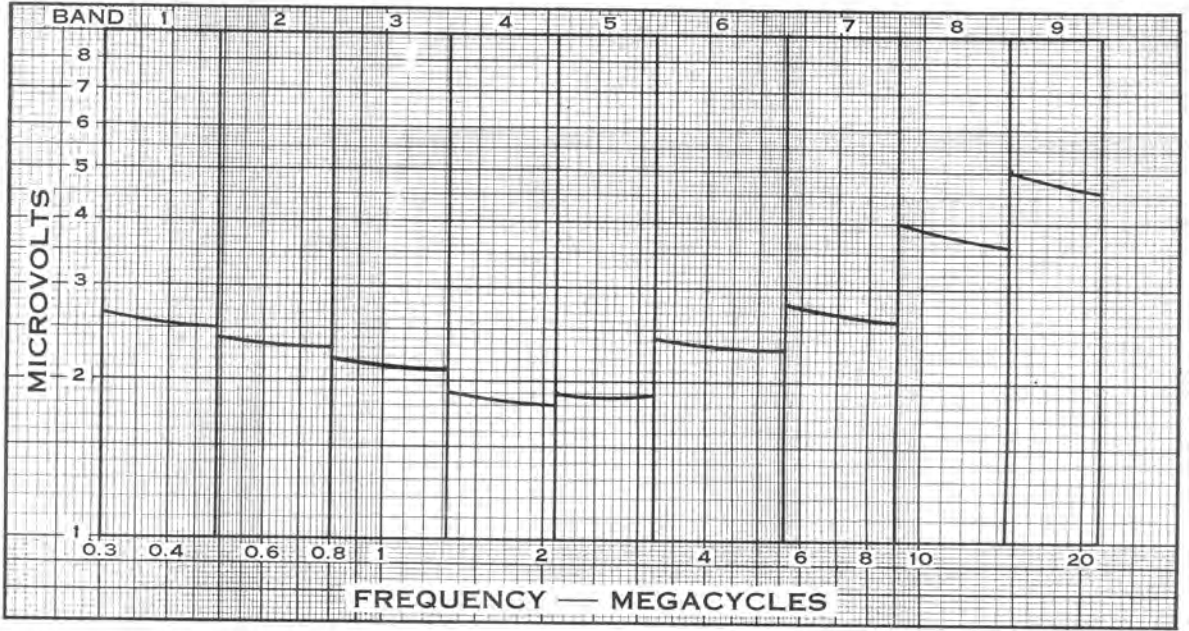

Figure 8—Sensitivity (microvolts for 6/.05 M.W. Signal/Noise Ratio)
- 11.1-1 Figure 8 gives approximate normal sensitivities for the various bands. The procedure and conditions of measurement are as follows: With "AVC-Off," "Audio-Broad," "Audio Tuning-Off," and with a 600-ohm non-inductive resistance at receiver output terminals, pure CW is applied from a signal generator to the receiver input through a 300-ohm non-inductive dummy antenna resistance. The output beat note is held at 1000 cycles (receiver tuned 1 kilocycle higher than signal). The regeneration control is set at standard oscillation (increased beyond critical oscillation to the point where the output drops 3 db or from 2.68 V. in 600 ohms at critical oscillation to 1.9 V. at standard oscillation). The "Sensitivity" control is set for 50 microwatts (0.173 V. in 600 ohms) noise output with no signal input. The microvolts input then required to produce 6 mw output (1.9 V. in 600 ohms) is measured.